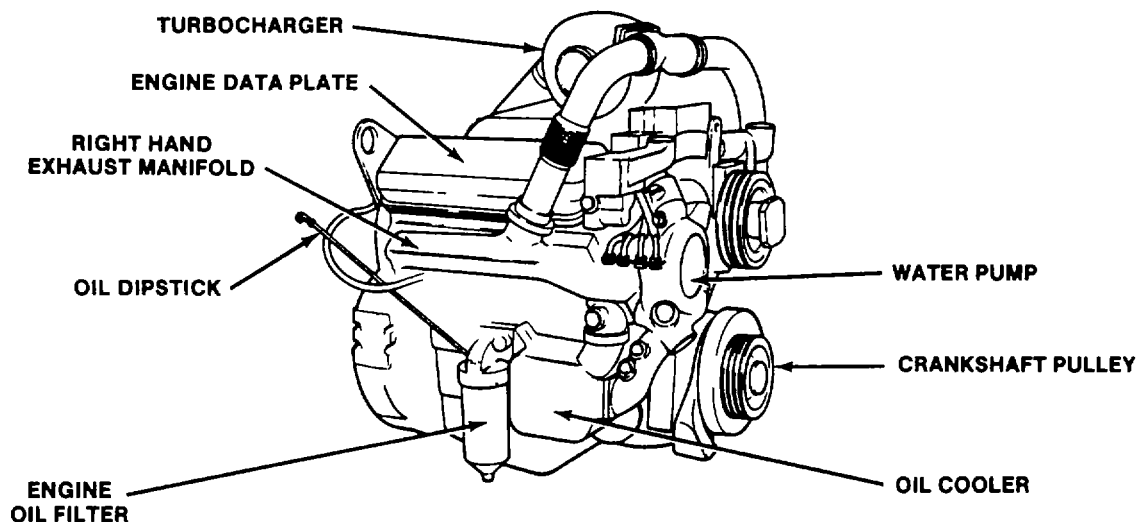

Figure 1-7. Truck Engine
(3) The signal lights, consisting of the turn signal lights, stop lights, and back-up lights are used to indicate to other traffic that the truck is about to change direction, slow down, or stop. The turn signal lights are directly controlled by the driver. The stop lights automatically illuminate when the brake pedal is applied. The back-up lights together with a back-up alarm operate when the transmission is selected to reverse gear. In addition to normal turn indication, all the turn signal lights can be selected to flash simultaneously. This feature is used to indicate road hazard conditions.
(4) The warning lights, comprising the strobe light beacons and oscillating warning lights, are used as visual warning signals to other traffic. The beacons are fitted with high intensity flash tubes and the oscillating lights with high intensity halogen bulbs.
(5) The work lights consist of the front and rear spotlights. These high intensity lights are used for illumination of work areas in front and behind the truck respectively. The front lights can be aimed individually from within the cab.
(6) The auxiliary lights consist of the structural control panel lights, cab and canopy lights, a cab map reading light, engine compartment lights, and storage compartment lights. These lights are provided for crew convenience. Two of the cab dome lamps and the storage compartment lights are normally controlled by door actuated switches. The remaining lights are manually controlled.
(7) Rearview mirrors, comprising two rectangular mirrors and two convex mirrors are provided on the cab doors. The rectangular mirrors are heated to prevent fogging or icing in cold weather and are equipped with marker lights. The convex mirrors enable wide angle rear viewing.
(8) Grab handles, located at all crew stations, are provided for safety when climbing on and off the truck. Hinged safety bars are provided at the rear crew seats as additional protection for the rear seated crewmembers.
(9) An electronic siren/PA (Public Address) unit is installed in the cab accessible to both driver and crewmember. The speaker is mounted behind the front bumper together with electric and air horns. The electric horns are operated from the steering wheel. The air horn is operated from pull chains on both sides of the cab.
d. Engine. The truck is provided with a V-configuration, six-cylinder, two-cycle diesel engine equipped with turbocharger and aftercooler (see fig. 1-7). The engine develops 350 horsepower at a governed speed of 2100 rpm.